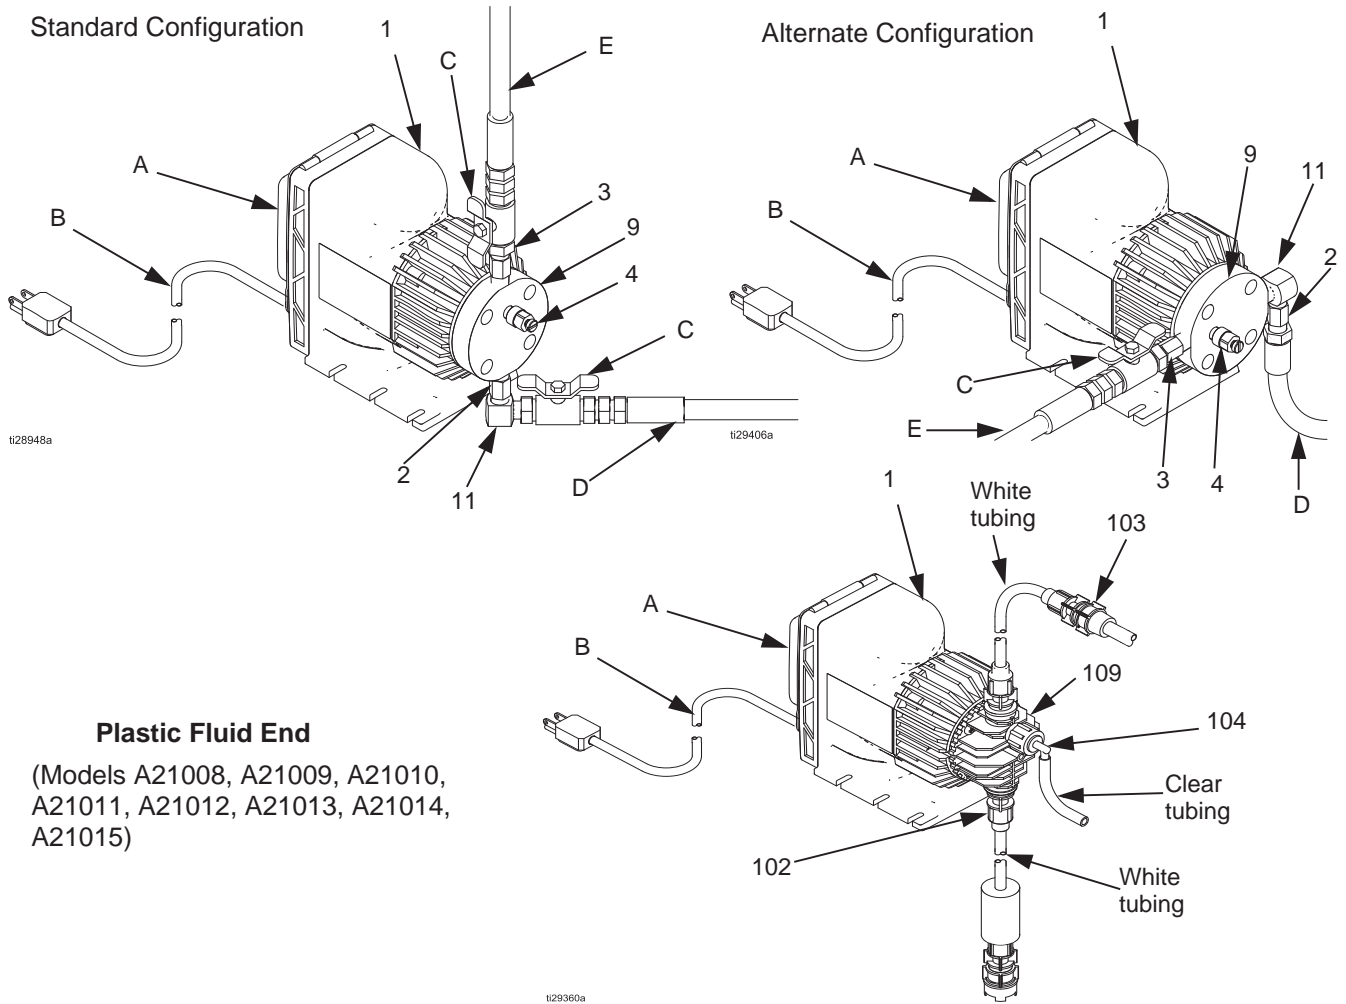
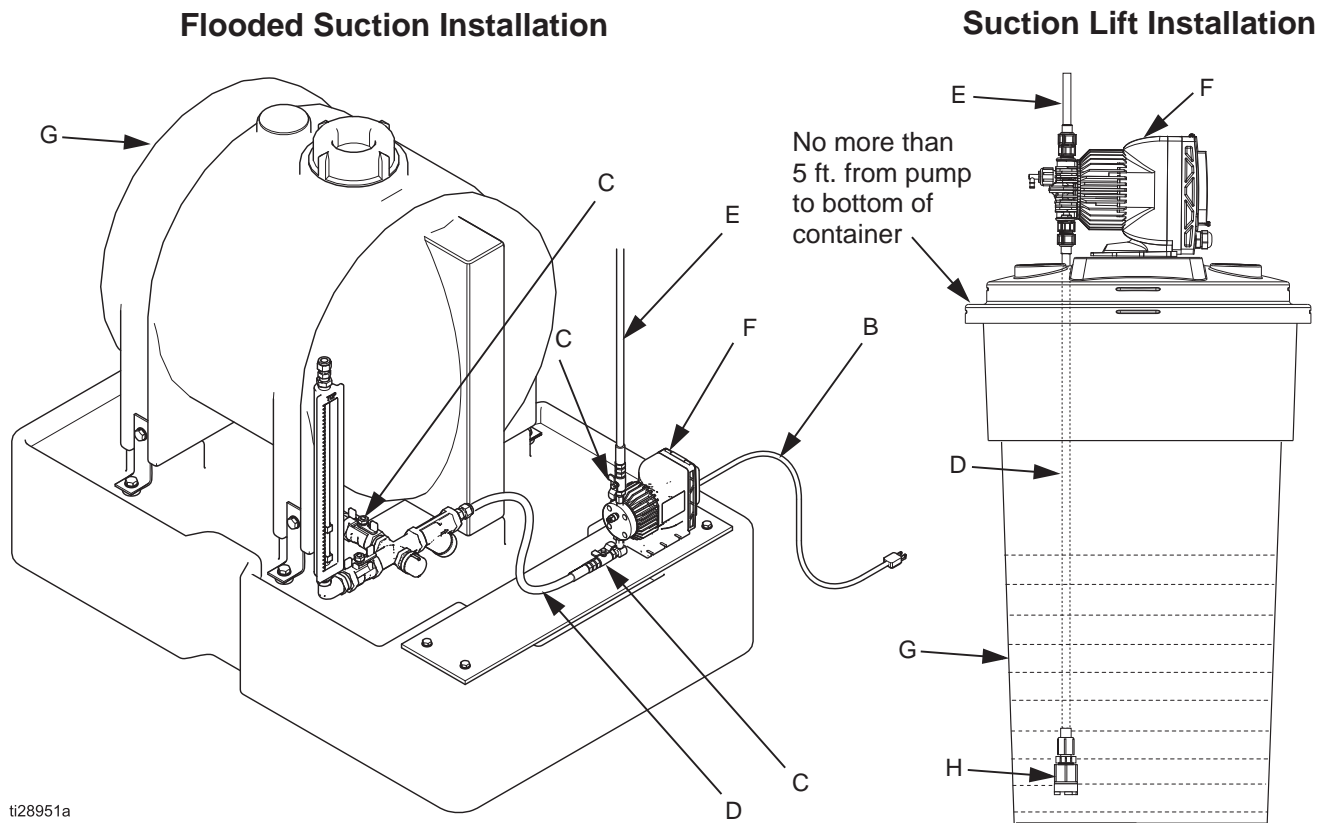

Fig. 2: Component Identification
FIG. 4: Typical Installation
The fluid end (9) of the pump, shown in FIG. 2, is set up to accommodate mounting of the pump next to the chemical supply container (G), shown in FIG. 4.
The pump is mounted on top of a chemical supply container, shown in FIG. 4, so that the distance from the pump to the bottom of the container does not exceed 5 ft.
FIG. 4 shows two examples of an installation with a Mongoose chemical metering pump. Your installation may differ from what is shown here. The Mongoose pump (F) and the attached power cord (B) are the only components in FIG. 4 supplied by Graco. All other components are supplied by customer.